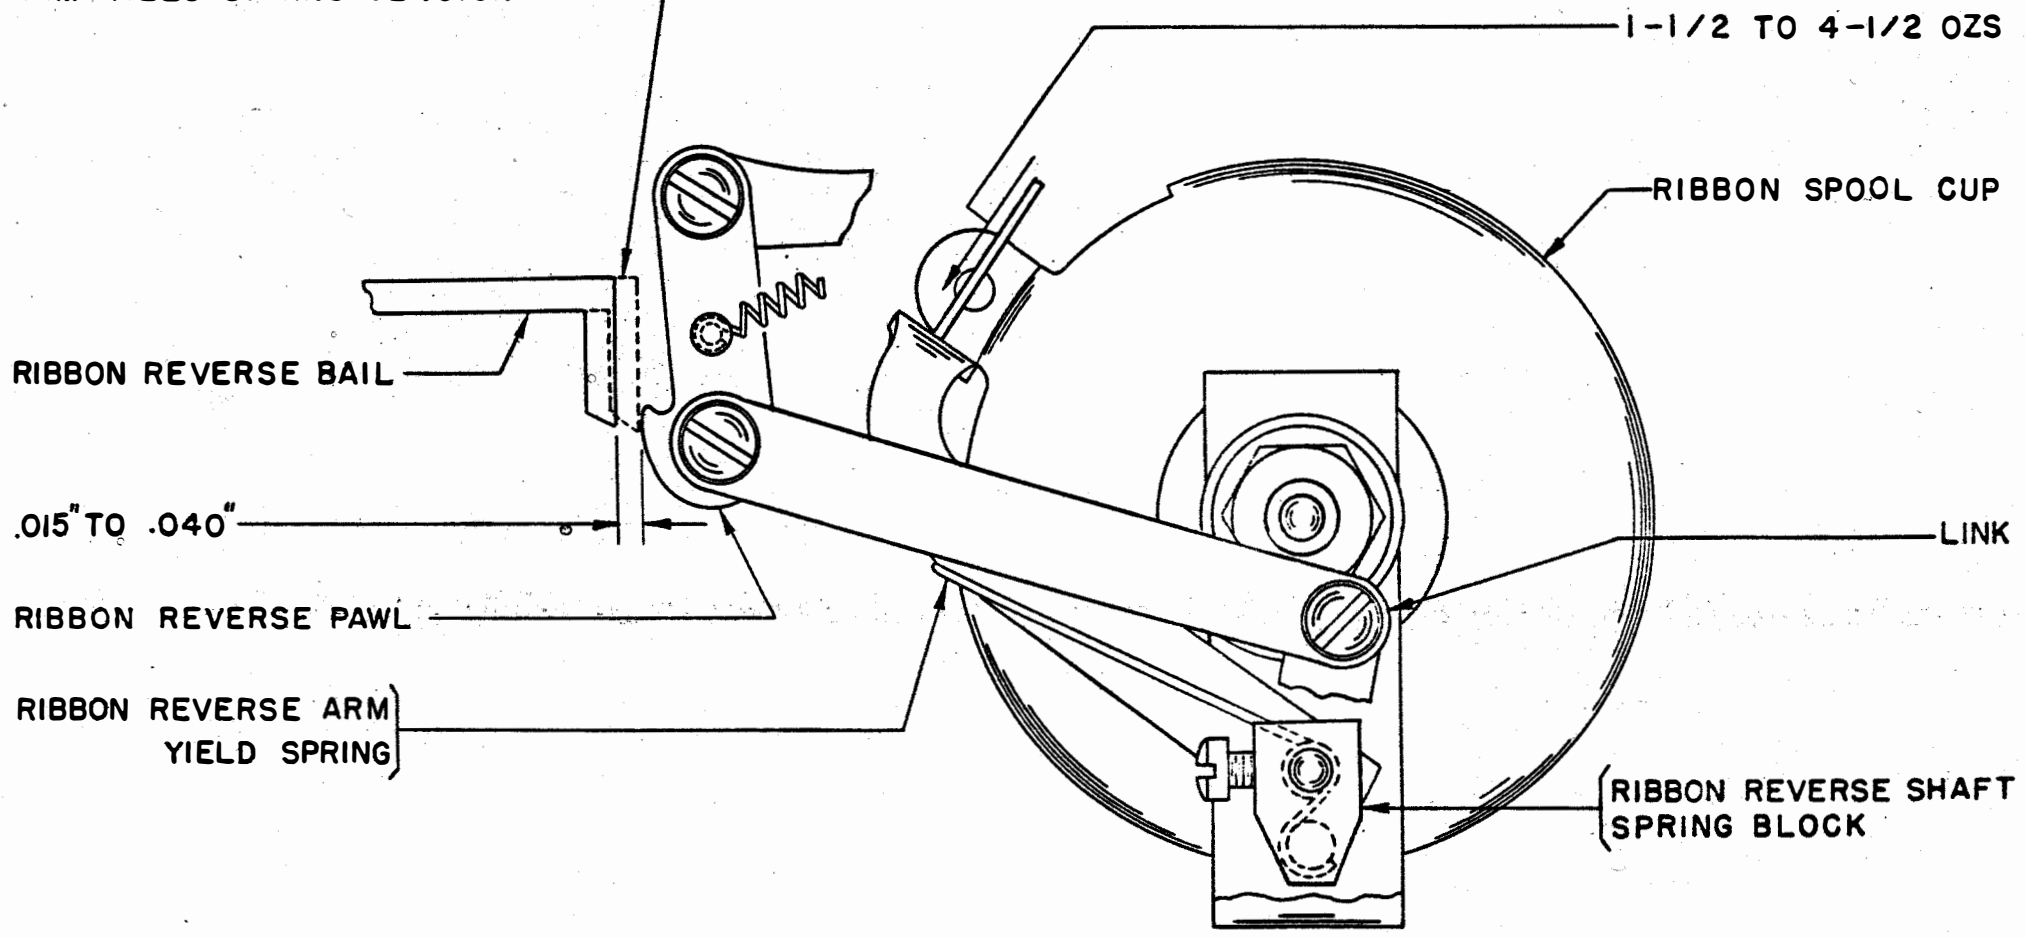

FIGURE 2
c. RIBBON REVERSE PAWL LINKS ADJUSTMENT (Figure 2)
d. RIBBON REVERSE ARM YIELD SPRING TENSION ADJUSTMENT (Figure 2)